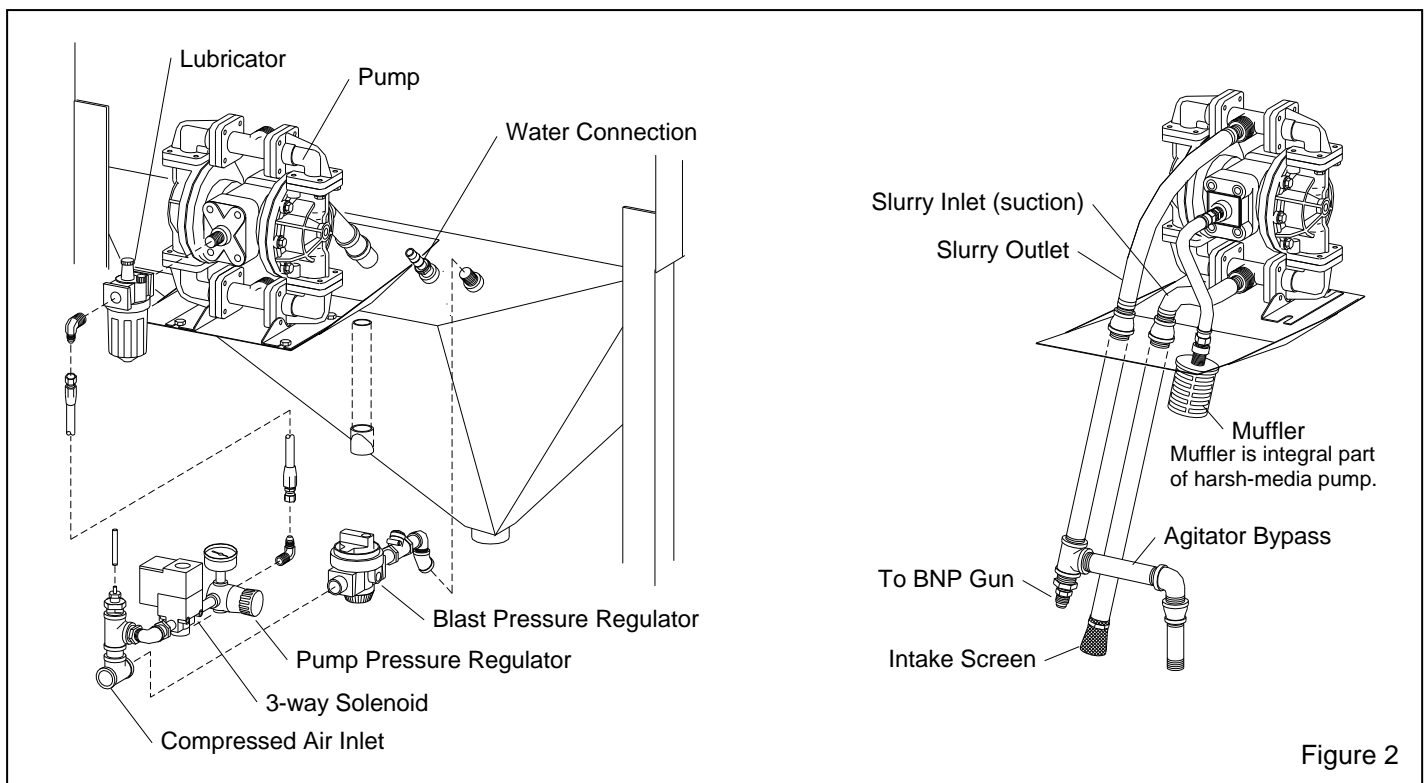

Figure 2
**3.4.6** Adjust the pump's pressure regulator to 80 psi. The regulator is located on the pump piping assembly. Refer to Figure 2.